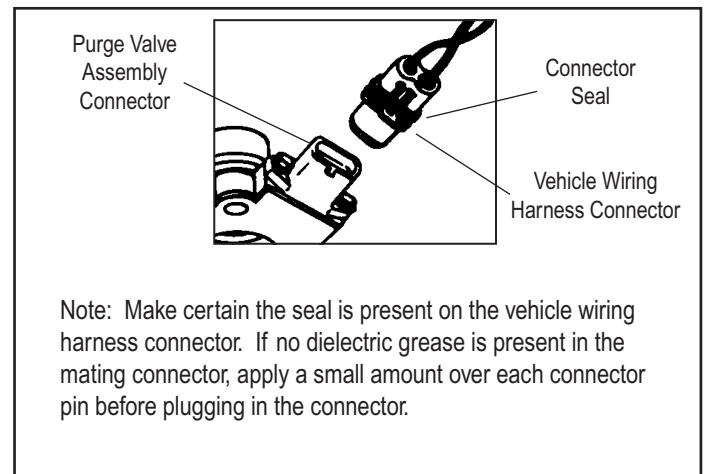

Figure 2 **Wiring Harness Connectors**
1. Disconnect the vehicle wiring harness connector that mates with the connector on the purge valve assembly. Make sure the connector seal is present on the wire harness. Refer to Figure 2.
7. Re-connect the vehicle wiring harness connector to the purge valve assembly. (*Refer to Figure 2 and read all notes.*)
With the ignition or engine kill switch in the ON position, check for voltage to the heater and thermostat assembly using a voltmeter or test light. Unplug the electrical connector at the air dryer and place the test leads on each of the pins of the male connector. If there is no voltage, look for a blown fuse, broken wires, or corrosion in the vehicle wiring harness. Check to see if a good ground path exists. *Refer to Figure 2.*